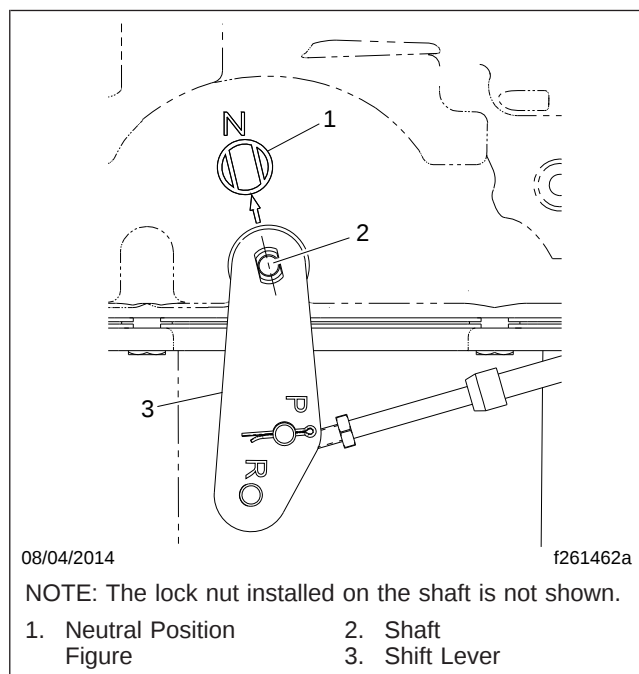

Fig. 7, Shift Lever Neutral Position, Kit ORS 59565
26. Make sure the shift control on the dash is set to NEUTRAL, and the shift lever on the transmission is in the neutral position, as indicated by the flats on the shaft and the neutral position figure cast into the transmission housing. See **Fig. 7**.